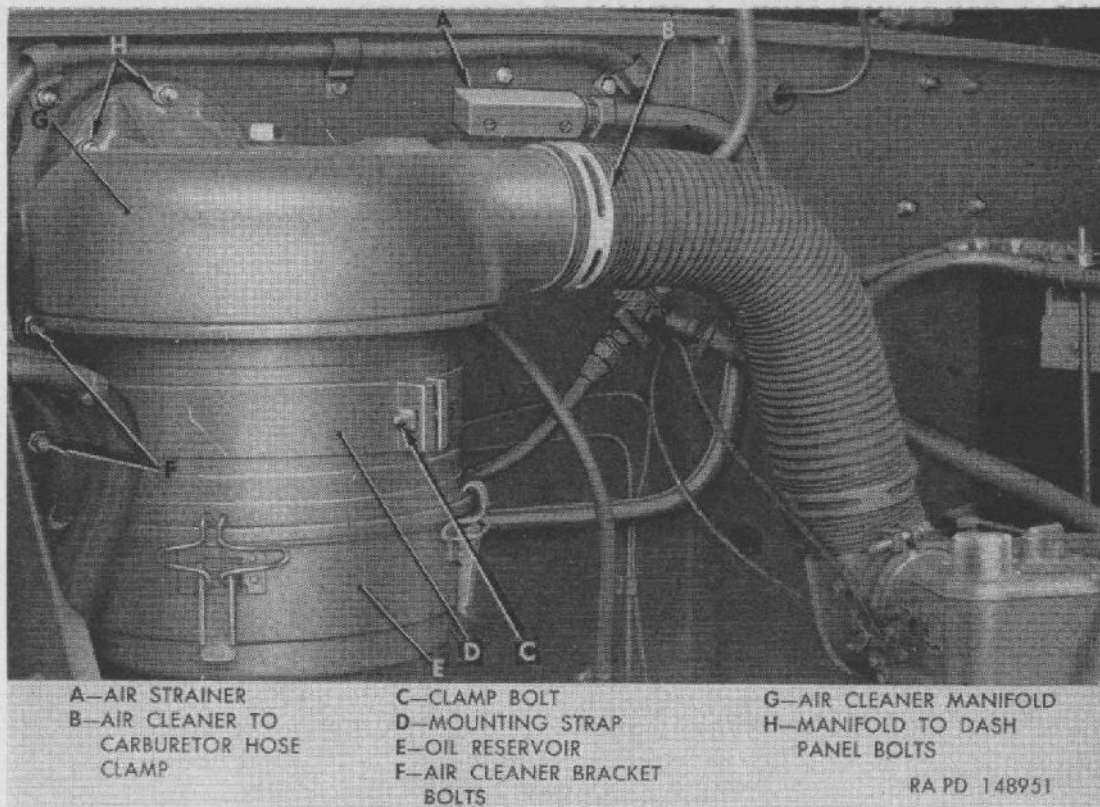

Figure 62. Air cleaner installed.
a. **DESCRIPTION.** Carburetor air cleaner is oil bath type (fig. 62). Mounting strap (D) is clamped around air cleaner assembly to hold the assembly to bracket on front side of dash panel. Air cleaner outer shell is bolted to air cleaner manifold (G) which is bolted to dash panel. Oil reservoir (E) is held to bottom of air cleaner by four clamps. Flexible hose connects air cleaner manifold to carburetor inlet elbow.
c. REMOVAL (fig. 62).
- (1) Loosen hose air cleaner-to-carburetor clamp (B) and pull hose off manifold outlet.
- (2) Remove five nuts and lock washers from manifold-to-dash panel bolts (H). Support air cleaner assembly while removing clamp bolt (C); then remove assembly from engine compartment. Remove gasket from bolts at dash panel. Strap and bracket may be removed after four air cleaner bracket bolts (F) have been removed.
d. INSTALLATION (fig. 62).
- (1) Mount bracket and strap on dash panel with four air cleaner bracket bolts (F), nuts, and lock washers.
- (2) Set air cleaner assembly in place at mounting bracket with gasket between manifold and dash panel. Install five manifold-to-dash panel bolts (H) and lock washers which hold manifold at front side of dash panel.
- (3) Install and tighten clamp bolt (C) at mounting strap (D).
- (4) Attach hose to manifold outlet and tighten air cleaner-to-carburetor hose clamp (B).
- (5) Check oil level in reservoir (par. 59e).